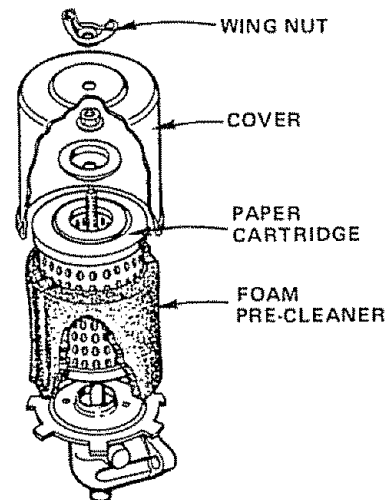

FIGURE 9
1. Remove Wing Nut and Cover (Fig. 9).